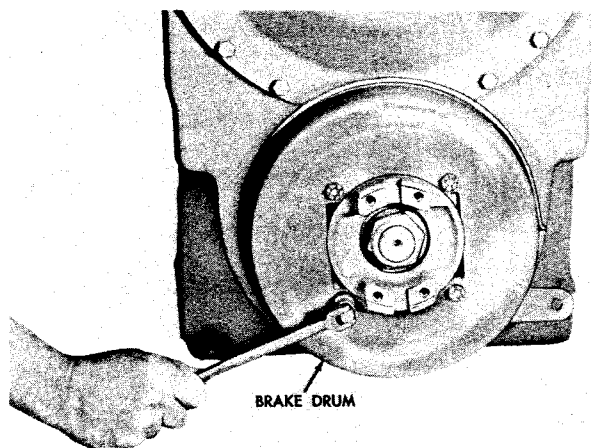

Fig. V-3. Removing (or installing) brake drum
(5) Remove four bolts and remove the brake drum (fig. V-3).